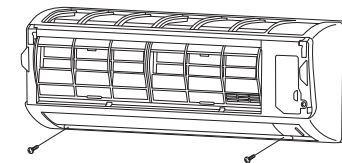

Fig. 3-41
- Remove the 2 screws. (Fig. 3-41)
- Affix the grille with the 2 previously removed screws. (Fig. 3-41)